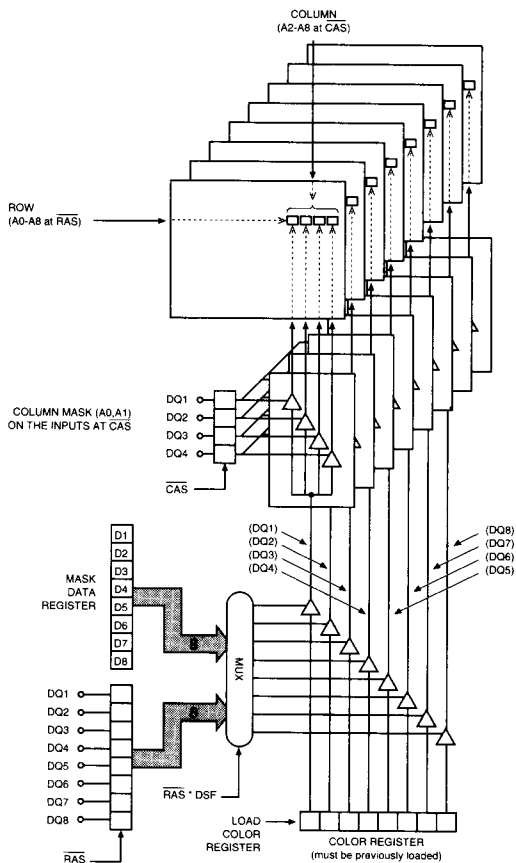

Figure 2
If DSF is HIGH when $\overline{\text{CAS}}$ goes LOW, the MT4V25632 will perform a BLOCK WRITE (BW) cycle instead of a normal WRITE cycle. In BLOCK WRITE cycles, the contents of the color register are directly written to four adjacent column locations (see Figure 2). The color register must be loaded prior to beginning BLOCK WRITE cycles (see LOAD COLOR REGISTER). Each DQ location of the color register is written to the four column locations (or any of the four that are enabled) in the corresponding DQ bit plane.